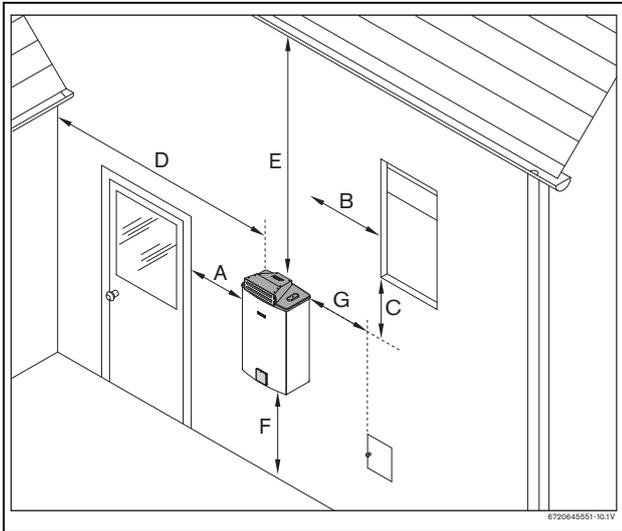

Fig. 12
**Best practice note:** The clearances in Fig. 12 and table 1 are the minimum allowed by the standard.